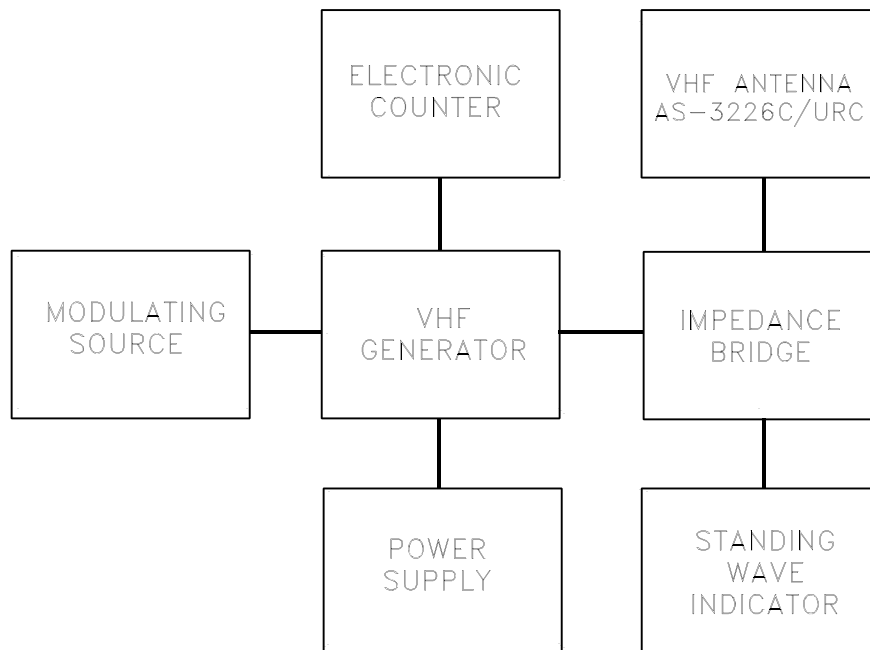

Figure 4-1 VSWR Test Setup
- e. VSWR Test Setup. Figure 4-1 shows the VSWR test setup for the antenna.
- (1) Prepare test setup as shown in figure 4-1.
- (2) At 10 MHz intervals between 30 MHz and 100 MHz, inclusive, plus 108 MHz, perform the following steps.